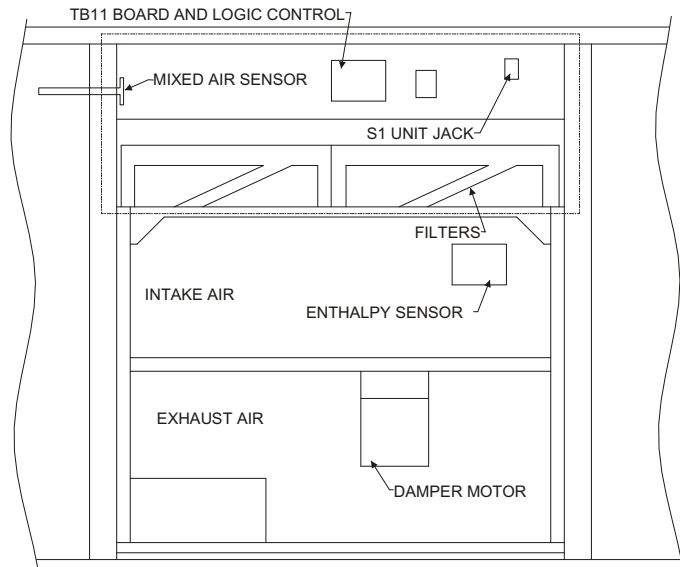

Figure 3
5. Locate S1, the unit's economizer connection and remove the installed dummy plug. **See Figure 3.**
8. Position logic control board in filter access area as shown in **Figure 3**. Secure control board with two #10-16 x ½ screws.
9. Insert mixed air sensor tube through the mounting hole into the supply air compartment. Secure using two #10-16 x ½ screws. **See Figure 3.**